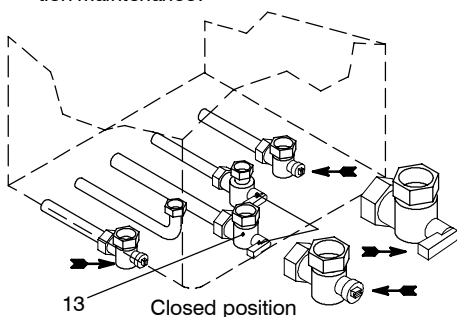

Fig. 2.12
- 2 Shut off the gas supply cock 13 and the valves for the water circuits fitted under the boiler (Fig. 2.12).